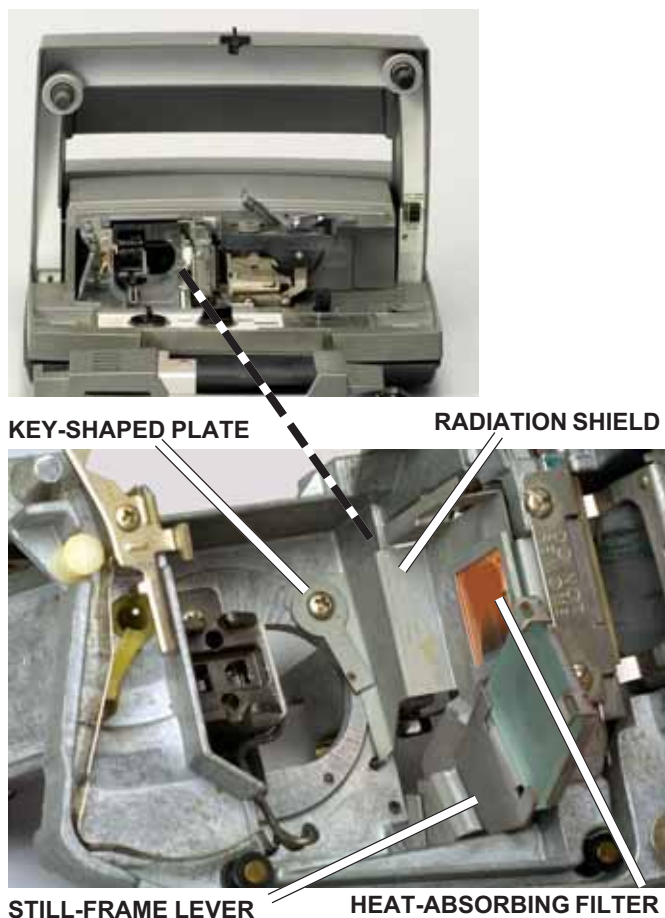

FIG. D44 Lamp chamber at the front of the projector.
6. From the front of the projector, remove the radiation shield (the plate with the heat-absorbing filter, Fig. D44). Depending on the projector, there may be one screw or two screws holding the radiation shield. Some projectors have the key-shaped support plate shown in Fig. D44 under one screw.